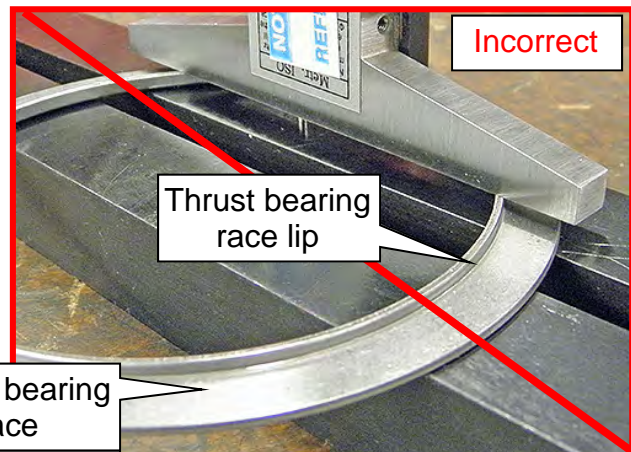

Figure 151
**IMPORTANT:** Do not measure from the thrust bearing race lip (Figure 151).